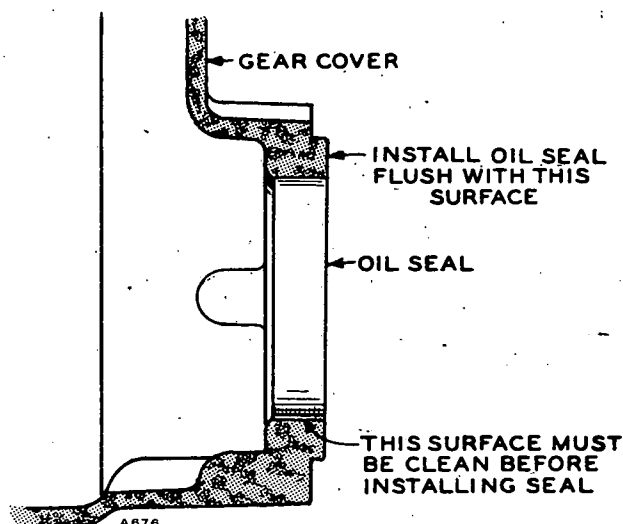

FIGURE 43. GEAR COVER OIL SEAL
**Gear Cover Oil Seal:** Replace the oil seal if damaged or worn. Drive the old seal out from inside the gear cover. Lay the cover on a board so the seal boss is supported. Using an oil seal driver, insert the new seal from the inside with rubber lip toward outside of gear cover (open side of seal inward) and drive it flush with the outside surface. During gear cover installation, use the driver to protect the oil seal. See Figure 43.